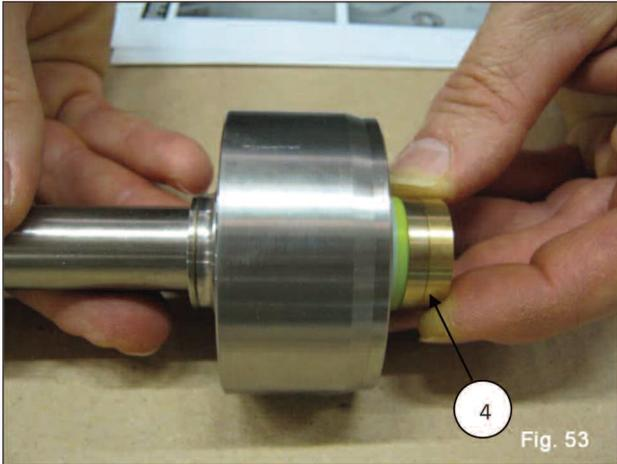
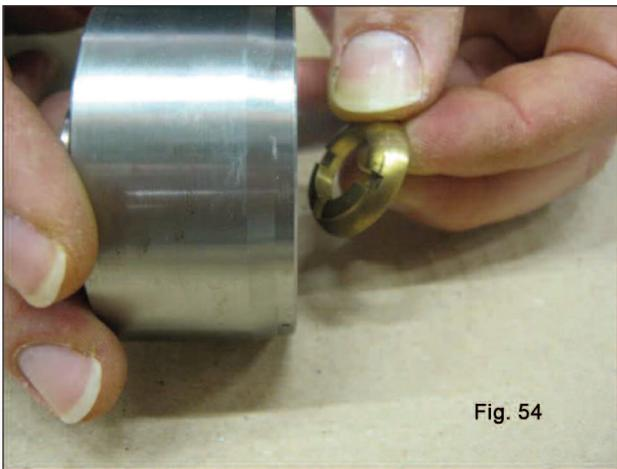
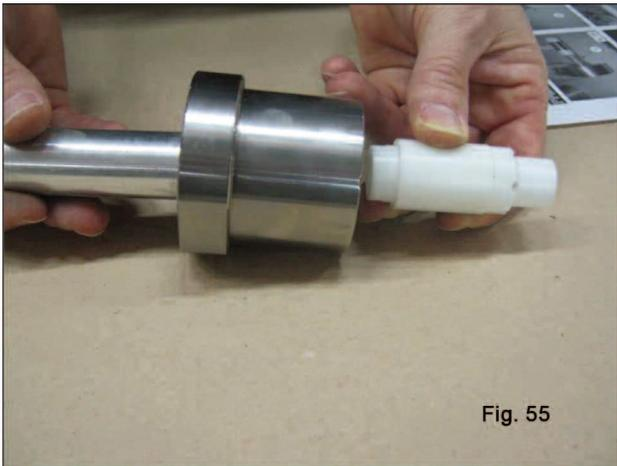

Fig. 53
Fig. 54
Fig. 55
- With separate HP seals support and a special pin (3, fig. 52) make the HP pack come out, pack (high pressure), 4, fig. 53, finally extract the head ring (fig. 54). The bushing for plunger, if replaced, is extracted from the liner with a special pin (fig. 55).
**At each disassembly, the HP packing, 4, fig. 53, must be replaced.**